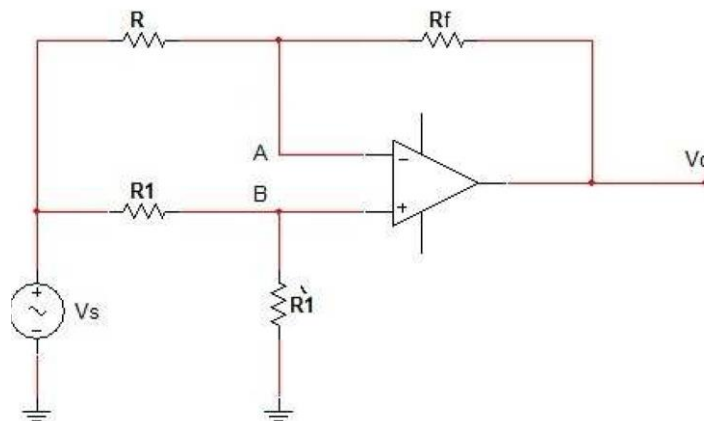

Figure 2.3
a) Connect the circuit as shown in figure 2.3 if: